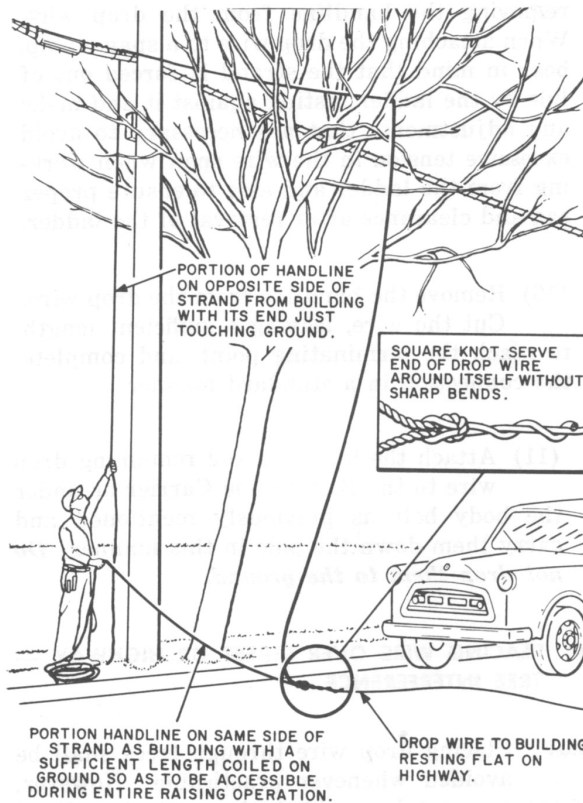

Fig. 6 — Drop Wire Tied to Handline
(1) When placing the handline over the strand, guard arm, drive hook, or cross-arm, locate it among the branches of the tree as illustrated in Fig. 6 in order that the drop wire may be raised to the proper position. A wire raising tool may be used to facilitate this operation. After the handline has been placed, tie it to the base of the pole or the lower rungs of the ladder to avoid interference with pedestrians or vehicles.
(1), (2), (4), depending on the conditions, except that the wire shall be raised at the pole or strand end of the span as follows:
b. Tie the end of the drop wire to the handline as shown in Fig. 6 at a point in that portion of the handline toward the building which will permit access to both ends of the handline from his position on the ground during the entire raising operation.